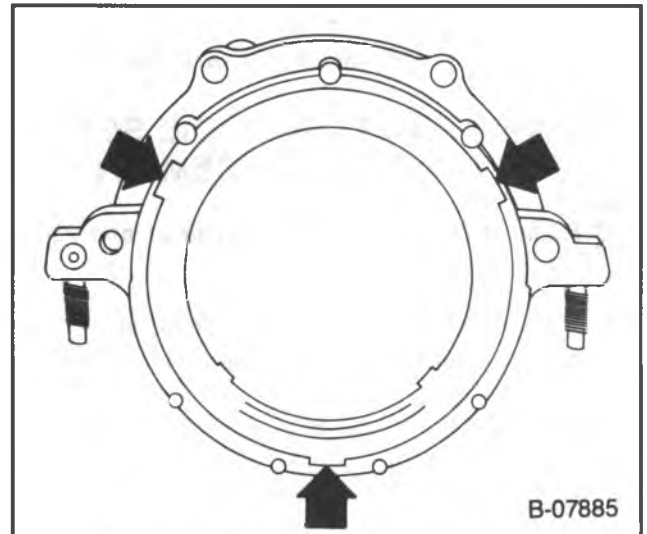

Figure 21 — Seal Removal Notches
Remove or Disconnect (Figure 21)
3. Rear crankshaft oil seal. Insert a screwdriver into the notches provided in the seal retainer and pry the seal out (figure 21). Take care not to damage the crankshaft sealing surface.
Remove or Disconnect (Figures 21 and 23)
4. Screws (80) and nuts (81).
5. Seal retainer (82).
6. Gasket (84).
7. Rear crankshaft oil seal. Insert a screwdriver into the notches provided in the seal retainer and pry the seal out (figure 21).
Install or Connect (Figures 21 and 23)